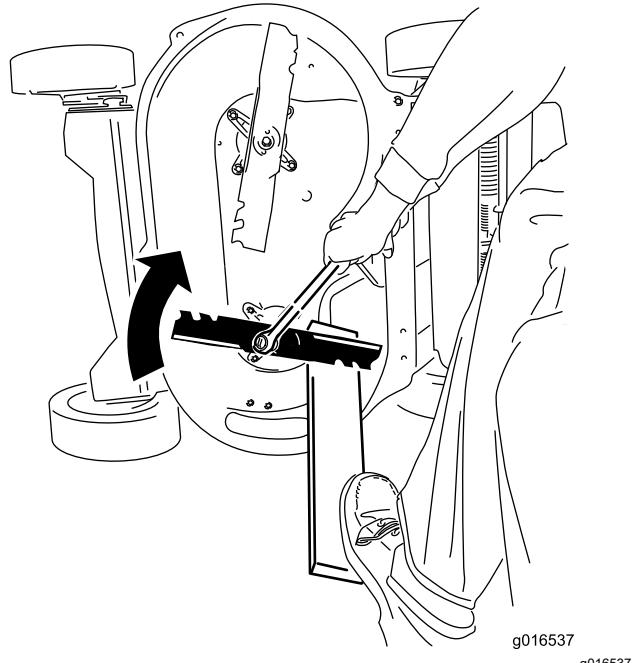

Figure 38
- Steady each blade with a board and turn the blade bolt clockwise with a torque wrench as shown in Figure 38; torque each blade bolt to 82 N·m (60 ft-lb).